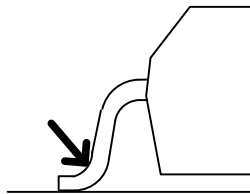

Figure 1: Total Resistance
- 10) The resistance is defined as the total resistance measured from a point of the lead next to the solder joint, assuming that the two I_P+ pins (and I_P- pins) have the same potential (see Figure 1). This definition corresponds to the effective resistance used to estimate the Joule heating, calculated with $R \times I_P^2$.